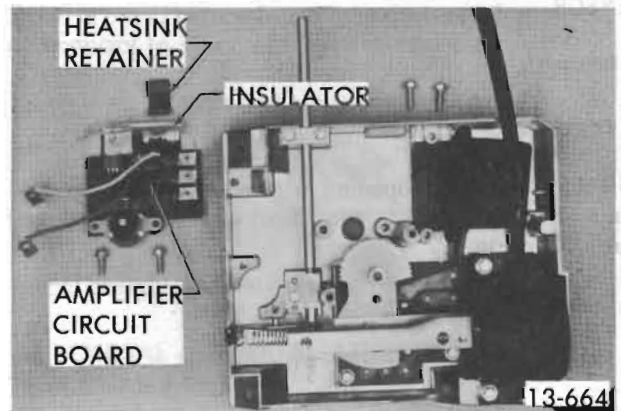

Figure 13-128 Amplifier Circuit Board - Removed
2. Remove two (2) programmer electrical connector retaining screws and lift connector body from amplifier terminals.
4. Remove two (2) amplifier retaining screws at amplifier feedback potentiometer.
5. Disconnect two (2) wires at transducer. Note which wire connects to each terminal.
7. To replace, reverse removal procedure and calibrate feedback potentiometer. See Figure 13-128.